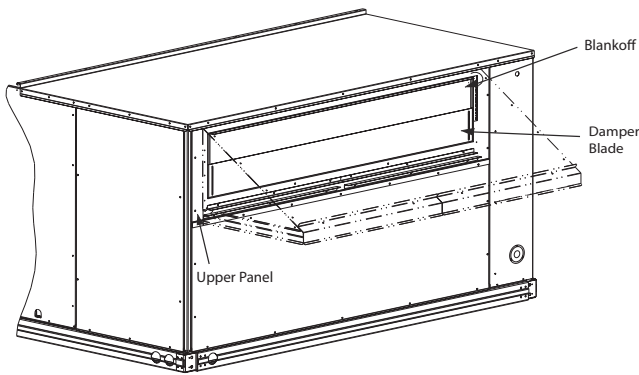

Fig. 2 - Assembled Hood
4. Install blankoff as shown in Fig. 2 with 5/16 screws from kit.